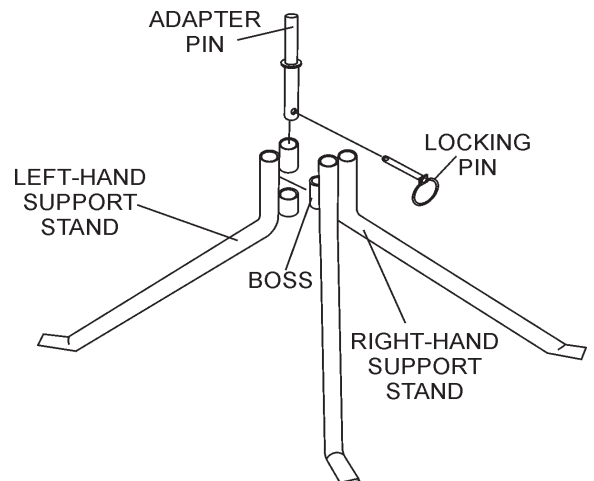

Figure 9. Optional Support Stand
4. Place the two halves of the optional support stand together (Figure 9). The left support stand fits into the center boss on the right support stand.
5. Insert the adapter pin through bosses as shown in Figure 9. Once the adapter pin has been inserted and aligned, insert the locking pin. Place the round part of the locking pin over the bottom section of the adapter pin.